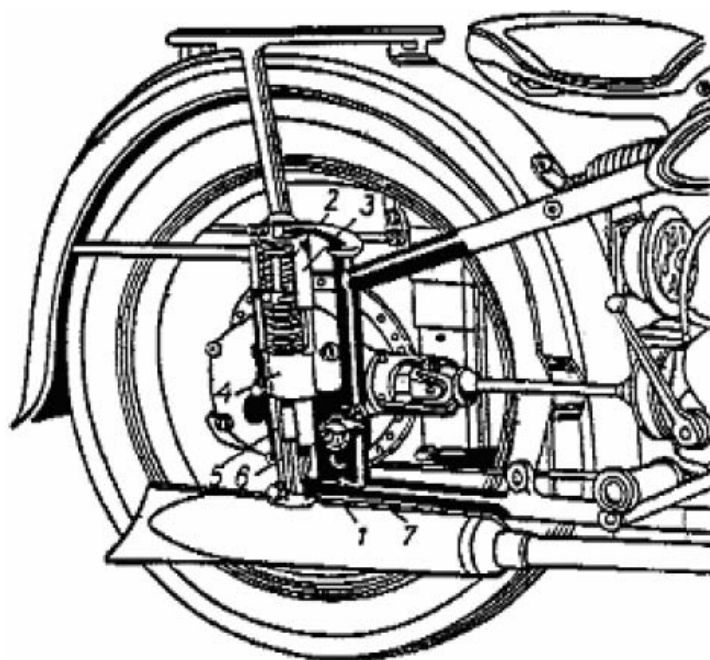

Fig 17
The suspension of the rear wheel (fig. 17) works in connection with the telescopic front forks to offer driving comfort even on bad roads. The principle of the rear wheel suspension is the same as with the front suspension. The whole load, which is set on the rear wheel, is transferred by spiral springs which weaken the impact in the case of collision into an obstacle. Strong shocks are caught by the rubber buffers (7).